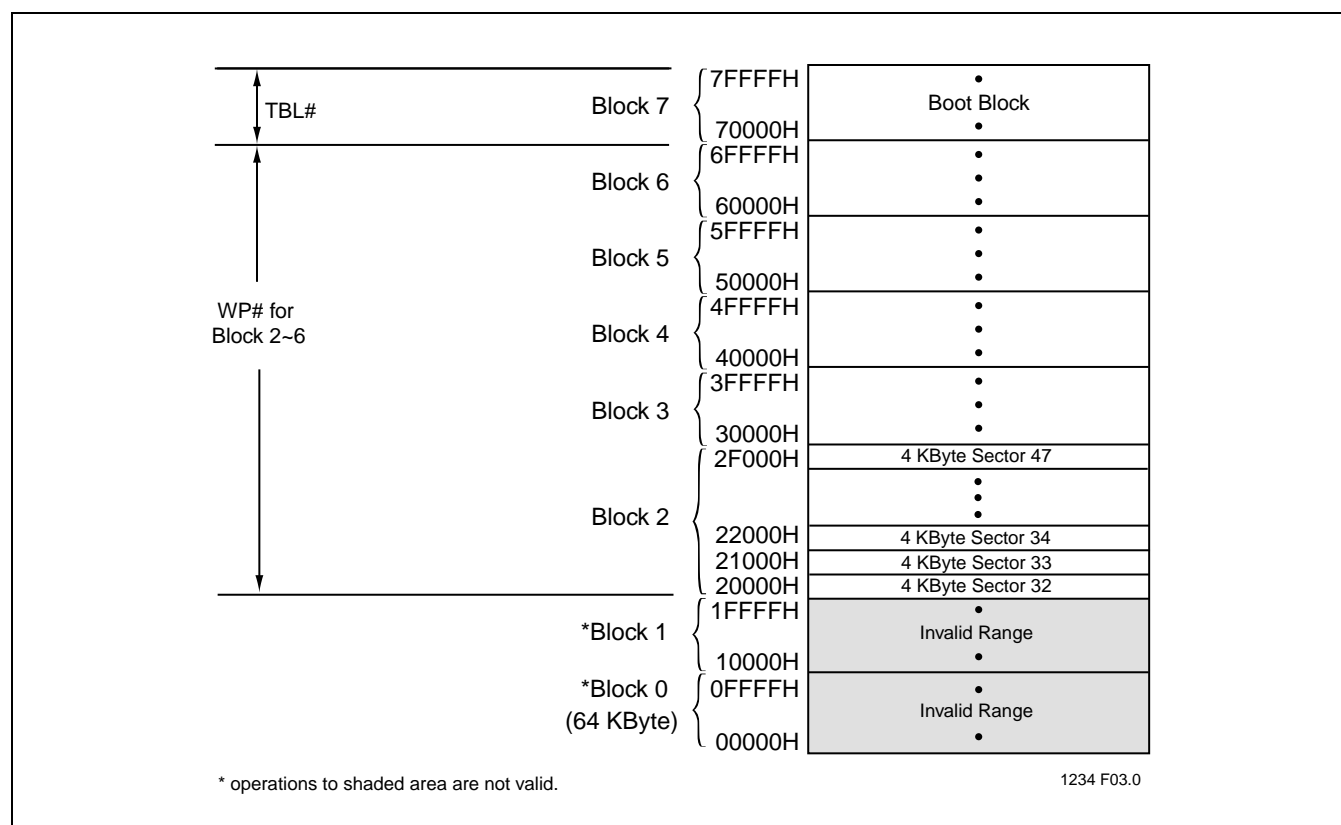

FIGURE 3: DEVICE MEMORY MAP
The SST49LF030A flash memory devices can operate in two distinct interface modes: the LPC mode and the Parallel Programming (PP) mode. The mode pin is used to set the interface mode selection. If the mode pin is set to logic High, the device is in PP mode. If the mode pin is set Low, the device is in the LPC mode. The mode selection pin must be configured prior to device operation. The mode pin is internally pulled down if the pin is left unconnected. In LPC mode, the device is configured to its host using standard LPC interface protocol. Communication between Host and the SST49LF030A occurs via the 4-bit I/O communication signals, LAD [3:0] and LFRAME#. In PP mode, the device is programmed via an 11-bit address and an 8-bit data I/O parallel signals. The address inputs are multiplexed in row and column selected by control signal R/C# pin. The row addresses are mapped to the lower internal addresses ( $A_{10-0}$ ), and the column addresses are mapped to the higher internal addresses ( $A_{MS-11}$ ). See Figure 3, the Device Memory Map, for address assignments.